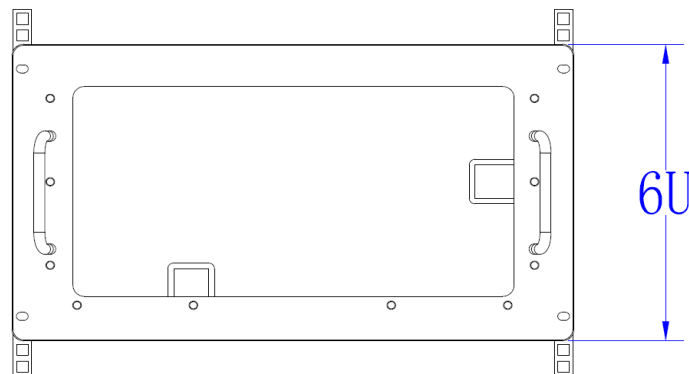

Figure 4
5.装入机柜：用 4pcs M6 的螺钉配套相应的螺母（M6 螺母）将固定好的仪器的支架安装在标准 19 英寸的机柜上；注：机架占 6U 的高度，见图 4；
Load into the cabinet: use the screws of 4pcs M6 to match the corresponding nuts (M6 nuts), and install the fixed instruments bracket on the standard 19 inch cabinet. Note: the rack occupies the height of 6U, as shown in figure 4.